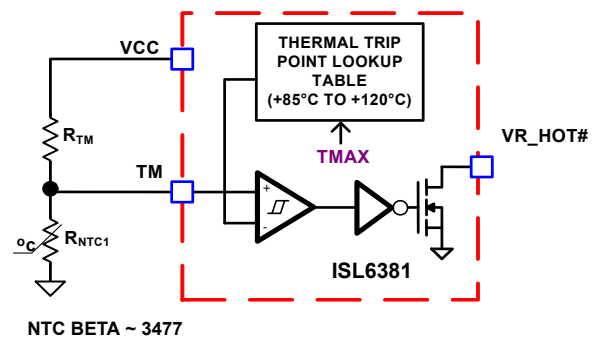
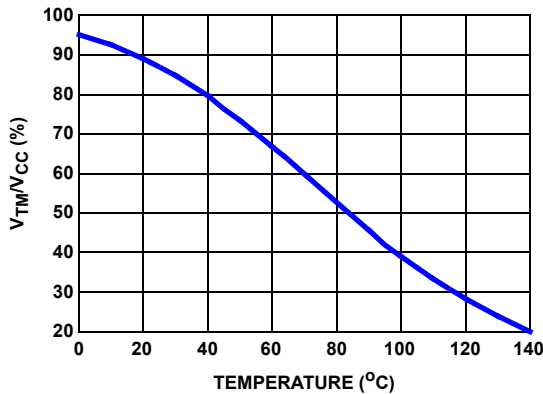

FIGURE 20. BLOCK DIAGRAM OF THERMAL MONITORING FUNCTION
FIGURE 21. THE RATIO OF TM VOLTAGE TO NTC TEMPERATURE WITH RECOMMENDED PARTS
The thermal monitoring function block diagram is shown in Figure 20. One NTC resistor should be placed close to the respective power stage of the voltage regulator VR to sense the operational temperature, and pull-up resistors are needed to form the voltage dividers for the TM pin. As the temperature of the power stage increases, the resistance of the NTC will reduce, resulting in the reduced voltage at the TM pin. Figure 21 shows the TM voltage over the temperature for a typical design with a recommended 6.8kΩ NTC (P/N: NTHS0805N02N6801 from Vishay, $b = 3477$) and 1kΩ resistor R_{TM} . It is recommended to use those resistors for the accurate temperature compensation since the internal thermal digital code is developed based upon these two components. If a different value is used, the temperature coefficient must be close to 3477 and R_{TM} must be scaled accordingly. For instance, NTC = 10kΩ ($b = 3477$), then R_{TM} should be $10\text{k}\Omega / 6.8\text{k}\Omega * 1\text{k}\Omega = 1.47\text{k}\Omega$.
Based on the V_{CC} voltage, the ISL6381 converts the TM pin voltage to a 6-bit TM digital signal for temperature. For accurate temperature compensation, the ratio of the TM voltage to the NTC temperature of the practical design should be similar to that in Figure 21.
When a different NTC type or different voltage divider is used for the TM function, the TCOMP voltage can also be used to compensate for the difference between the recommended TM voltage curve in Figure 21 and that of the actual design. If the same type NTC ($\beta = 3477$) but different value is used, the pull-up resistor needs to be scaled, as shown in Equation 21:
1. Properly choose the voltage divider for the TM pin to match the TM voltage vs temperature curve with the recommended curve in Figure 21.